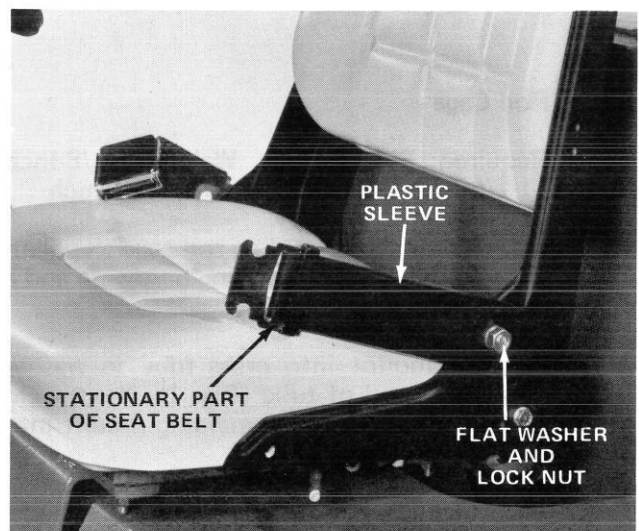

Figure 6
3. Slide plastic sleeve (Fig. 6) on to stationary part of seat belt. Install stationary part of seat belt against left side of seat back-rest with cap screw, flat washer, and lock nut (Fig. 6). Do not tighten lock nut too tight because stationary part of seat belt must move up and down.